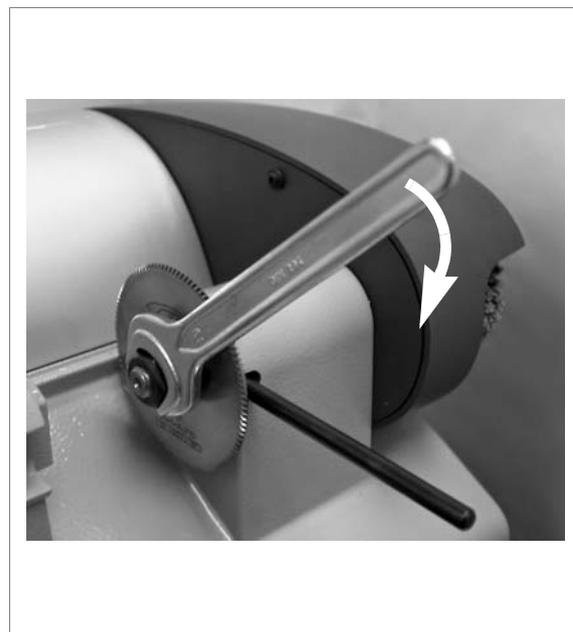

Fig. 25
- 3) Place the locking pin into the groove in the base and the special hole in the cutting tool shaft (fig.25).
- 7) Remove the locking pin and fix the shield (H) with screw (H1).